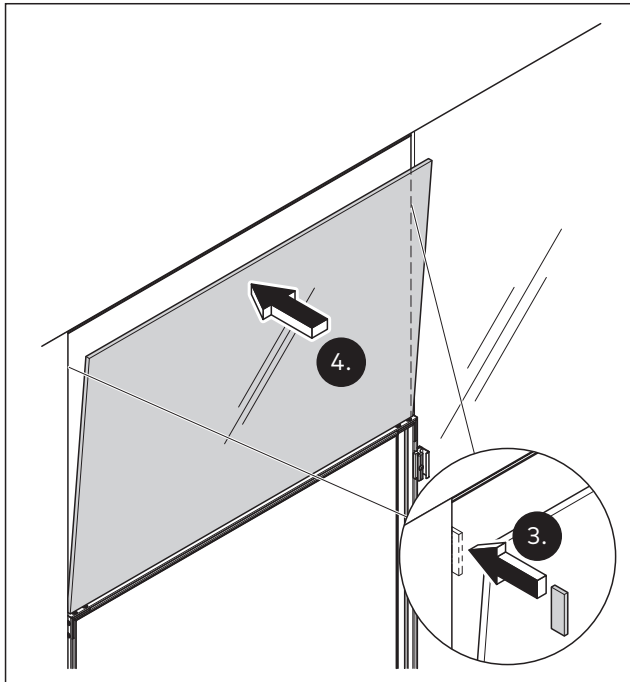

Fig. 36 Align the overpanel and hold in position
3. Ensure the distance between overpanel and side panels with a spacer (Fig. 36).